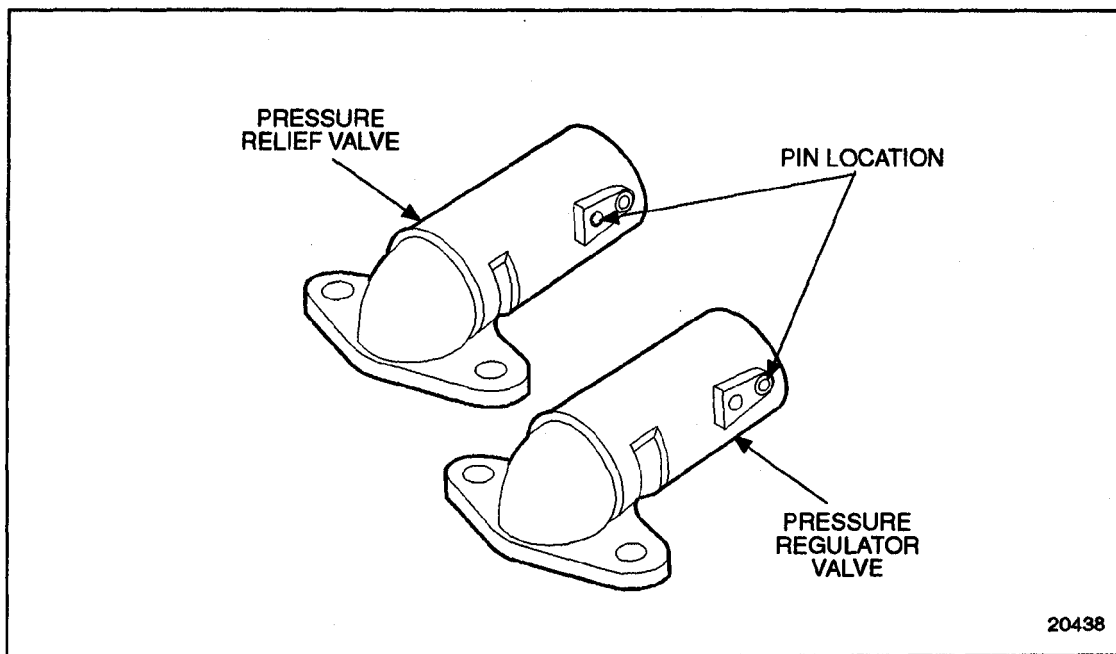

Figure 3-14 Comparison of Pressure Regulator and Relief Valve Assemblies
1. Apply clean engine oil to the outer face of the valve. See Figure 3-14.
2. Slide valve into the regulator body, closed end first. See Figure 3-14.
The valve body has two retaining pin holes. See Figure 3-14. Install the pin in the outermost hole for the regulator valve. The retaining pin must be positioned correctly so the proper valve opening pressure will be obtained. Although the same casting is used for both the pressure regulator and relief valves, the regulator valve has a slightly larger opening machined into the side. See Figure 3-14.